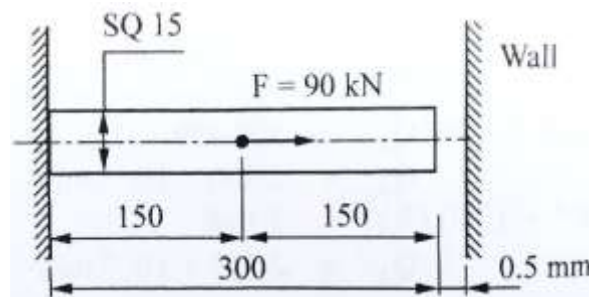

Figure 2
- (c) For the Loading as shown in figure 2, with the penalty approach determine the displacements and support reaction. Assume modulus of elasticity as $80 \times 10^3 \text{ N/mm}^2$. 07